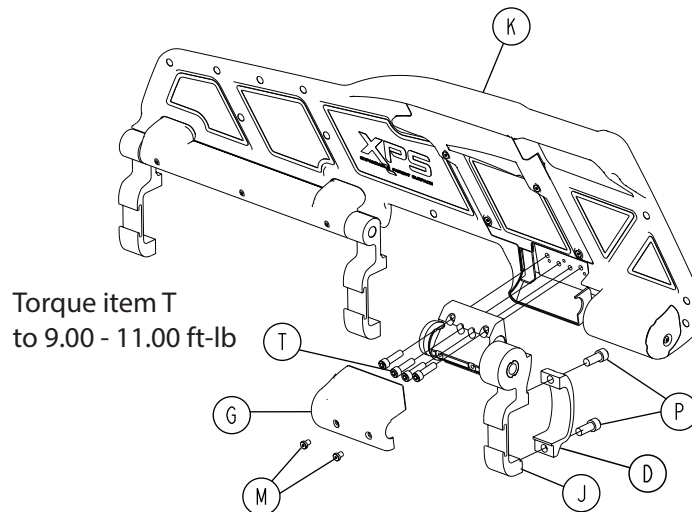

Figure 49 – Ratchet assembly components (XPS)
5. Using a 3/32" hex wrench, remove the two socket head cap screws (M) that secure the ratchet cover (G) to the ratchet assembly (J) (Figure 49). Remove and save the ratchet cover. Save the screws.
6. Using a 1/4" hex wrench, remove the socket head cap screws (P) that secure the siderail clamp (D) to the ratchet assembly at the foot end of the main assembly. Save the screws.
7. Using a 3/16" hex wrench, remove the four socket head cap screws (T) that secure the ratchet assembly to the overmold assembly (K). Remove and discard the ratchet assembly. Save the screws.